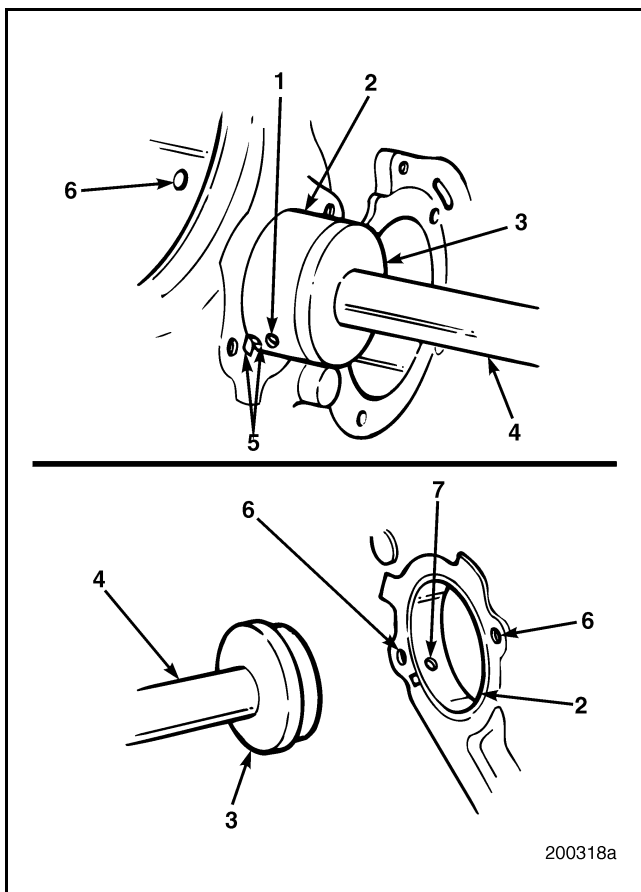

Figure 202 — Camshaft Bushing Installation
2. Using a dark-colored felt-tip marker, mark the cylinder block and bushing with a line to facilitate correct alignment at installation. Refer to Figure 202.